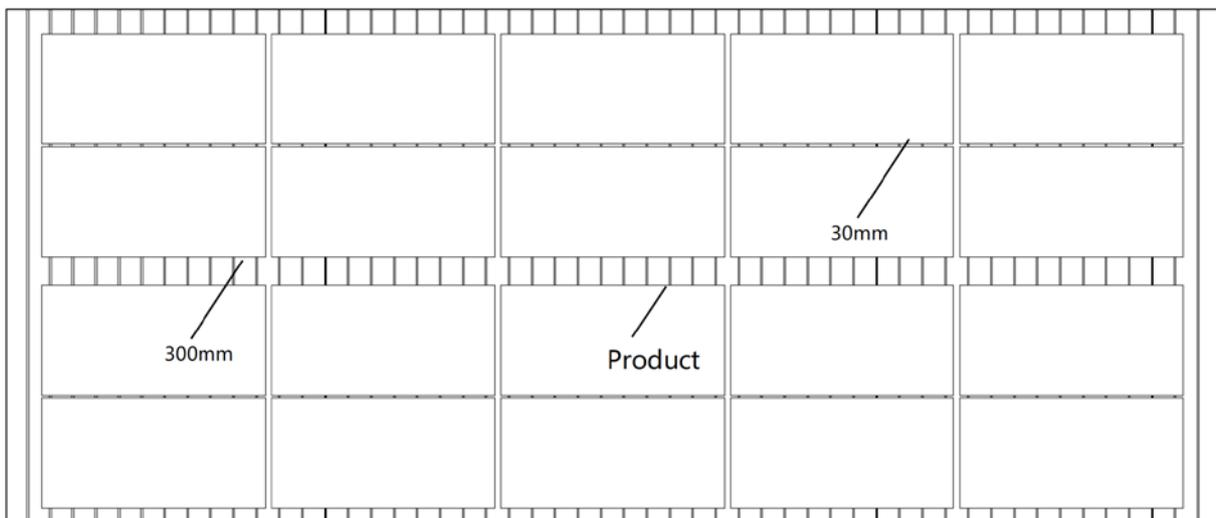

Figure 14
- ⑥ A distance of 30mm (± 5 mm) should be left between two adjacent products and a maintenance access path of 300mm should be provided between two rows of products. (Figure 14)